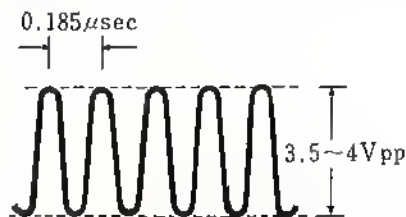

Fig. 50 Wave-form at TP305.
10. After connecting a oscilloscope to TP305, adjust R348 and R355 to obtain the balanced wave-form of 5.4 MC on the oscilloscope as shown in Fig. 50.